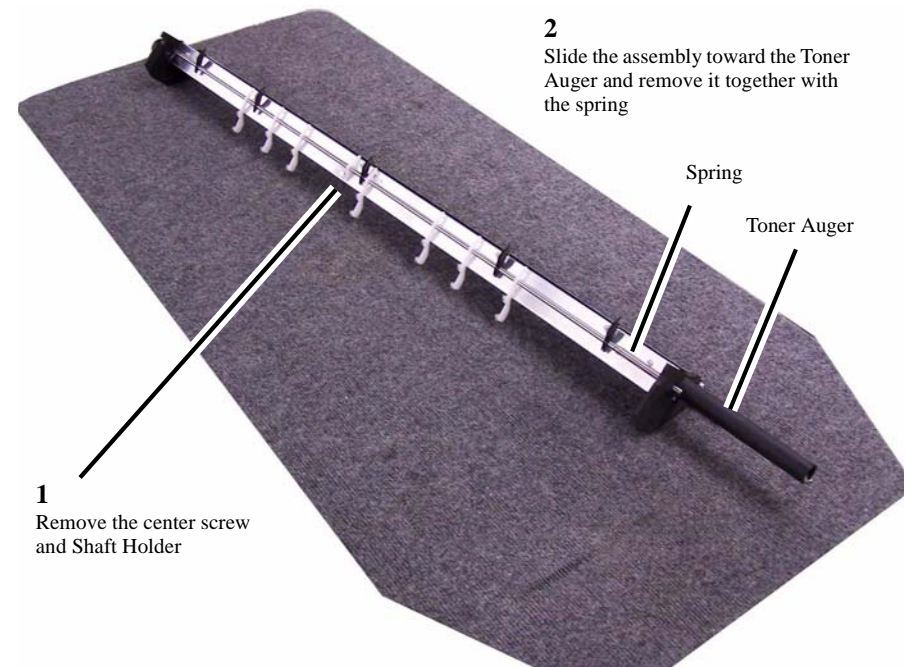

Figure 1
- a. Remove the center screw and Shaft Holder (Figure 1).